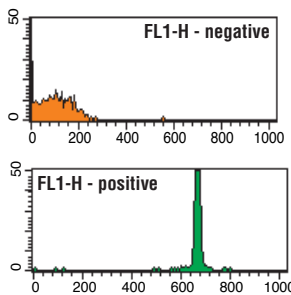

Figure 5
2. Using the FL1 and/or FL2 channels (depending on the reporter antibodies used) determine whether or not any bead populations tested "positive" for the analyte. (Figure 5) Note: A positive bead will produce a fluorescence peak in the FL1 or FL2 channel. The minimum fluorescence intensity needed to be considered "positive" is based on the Relative Channel Value (RCV) of the peak. It is up to the investigator to determine what threshold RCV value will constitute a "positive" result.